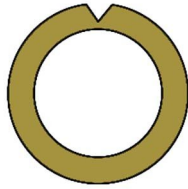

Figure 1
- **Step 1** As shown in Figure 1, use a sharp hobby knife to cut a "V" notch in the outer diameter of the TB-7 ring.